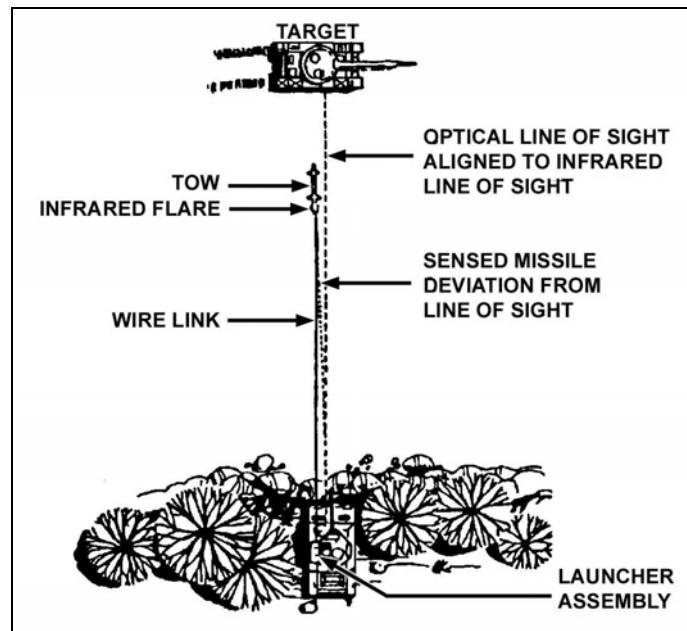

Figure 6-44. Missile-tracking concept.
d. When engaging a moving target with a TOW, the gunner must continuously track the target, keeping the reticle crosshairs on center mass. The TOW 2B missile flies above the target to kill. The center mass aim point must remain the same while the missile travels to the target. Figure 6-44 shows this missile-tracking concept.